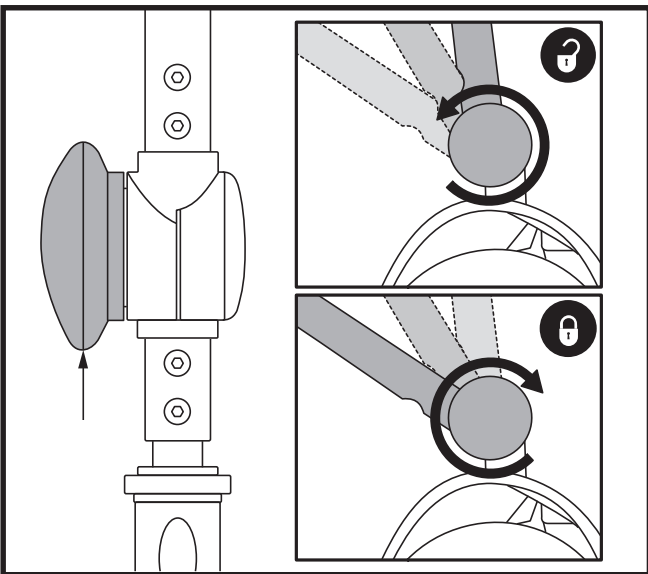

Figure 13. Tiller Adjustment Knob
TILLER ANGLE ADJUSTMENT (See figure 13)
1. With the seat and battery pack removed (see Disassembly Procedures on previous page), lower the tiller and tighten the tiller adjustment knob. See **figure 13**.
3. Raise the tiller and fully tighten the tiller adjustment knob. See **figure 13**.